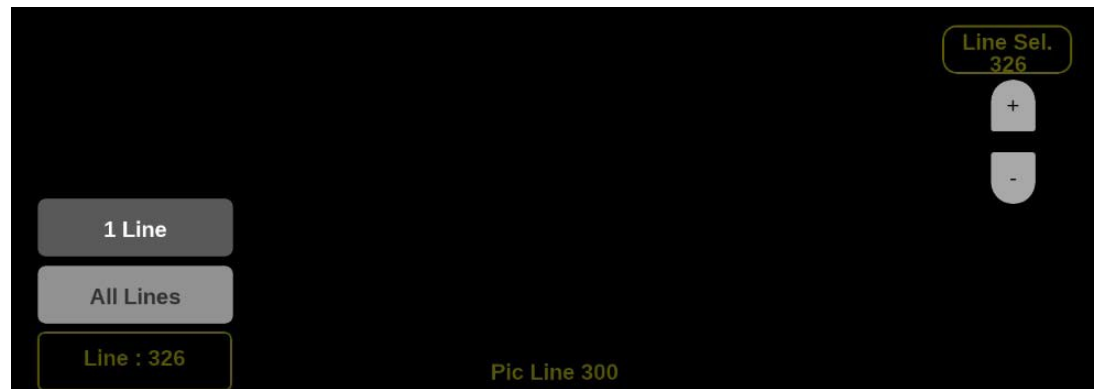

Figure 103: Vector on-screen tools – Line Select
If **1 Line** is selected then the display will only show results for the selected line in the picture. The line can be selected using the on-screen tools. (See Line Select function.) Or the line can be selected directly on the Picture. (See Figure 103.)
1. Select the **Lines** button at the bottom of the application. (See Figure 103.)